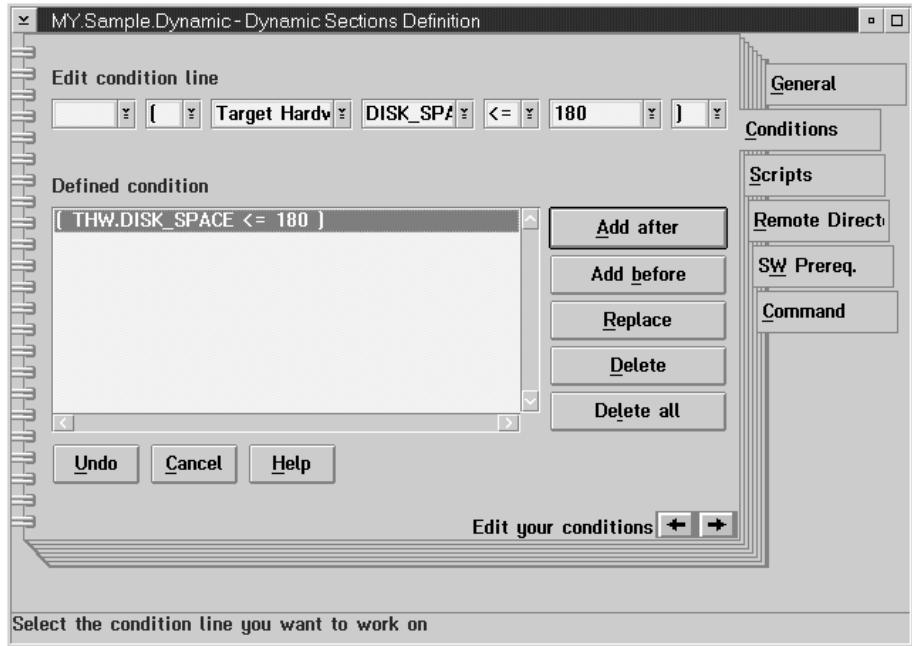

Figure 88. Dynamic sections definition notebook: conditions page
- 9 Click on the **Conditions** tab. The Conditions page is displayed, as shown in Figure 88 on page 176.
- 10 Fill in the entry fields contained in the Edit condition line group to define the first condition (DRIVE_SIZE < 180M), as shown in Figure 88.